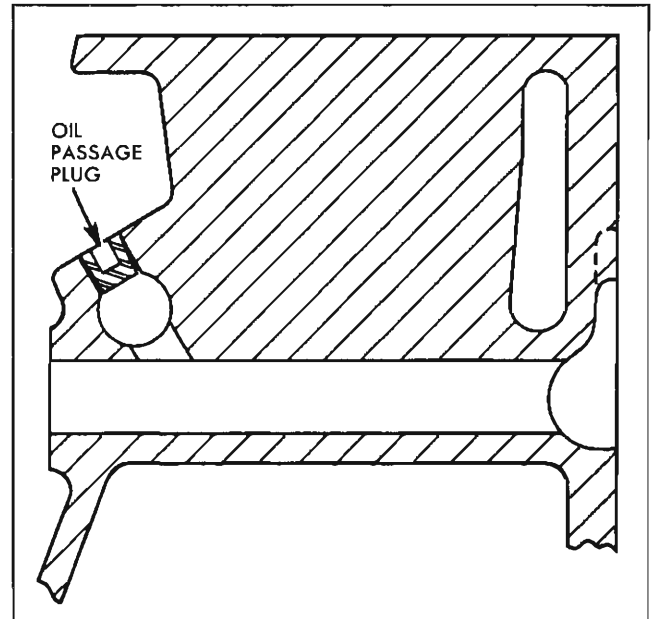

Fig. 6-32 Cylinder Head Oil Passage Plug
1. Inspect valves and seats to determine condition before cleaning. Also check oil and water passage plugs for evidence of leakage (Fig. 6-32).
c. Check oil passages from oil gallery through rocker arm studs. A simple test can be made using a rubber hose and smoke. Block lower end of cylinder head screw hole which feeds oil gallery (Fig. 6-32) and blow smoke in top end of hole through rubber hose. Smoke should come out hole in each stud.